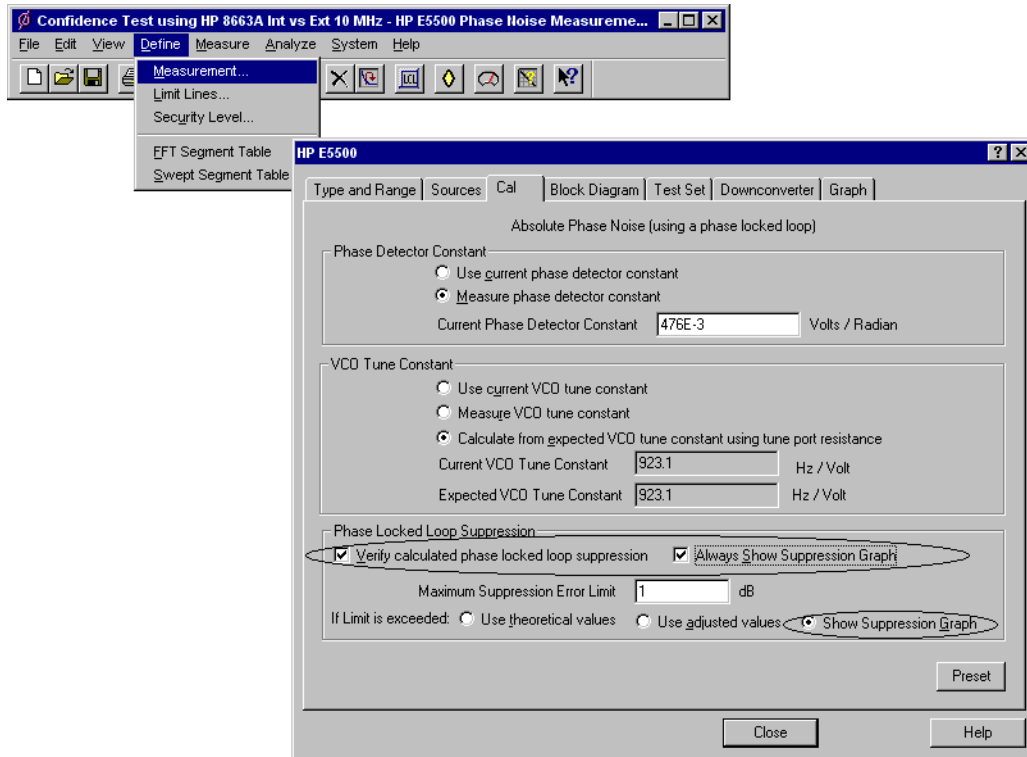

Figure 7-15 Selecting Loop Suppression Verification
- 1 Using Figure 7-15 as a guide, navigate to the **Cal** tab.